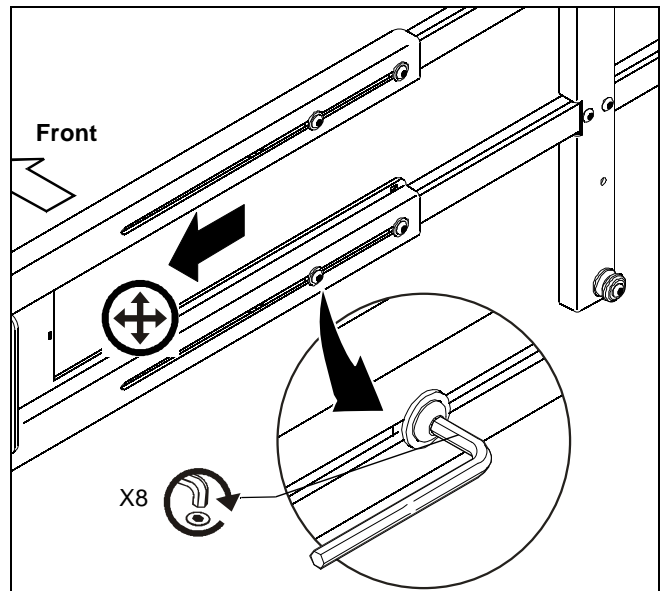

Figure 12
7. Adjust speaker horizontal location. (See Figure 12)
8. Tighten eight button head cap screws to hold speaker mounting rail in place. (See Figure 12)